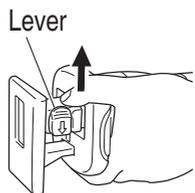

Fig. 9
- (4) When you release the lever, the spring force will return the lever to the correct position automatically (Fig. 9).